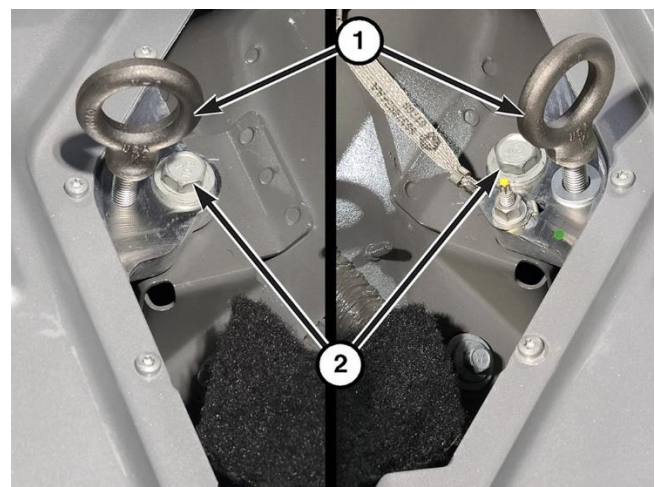

Figure 39 – Eyebolt Installation
42. Thread the other two Eyebolt, 10mm 2035203080 (1) into the threaded holes next to the HV battery pack mounting bolt holes (2) on the rear side of the HV battery pack (Figure 39).